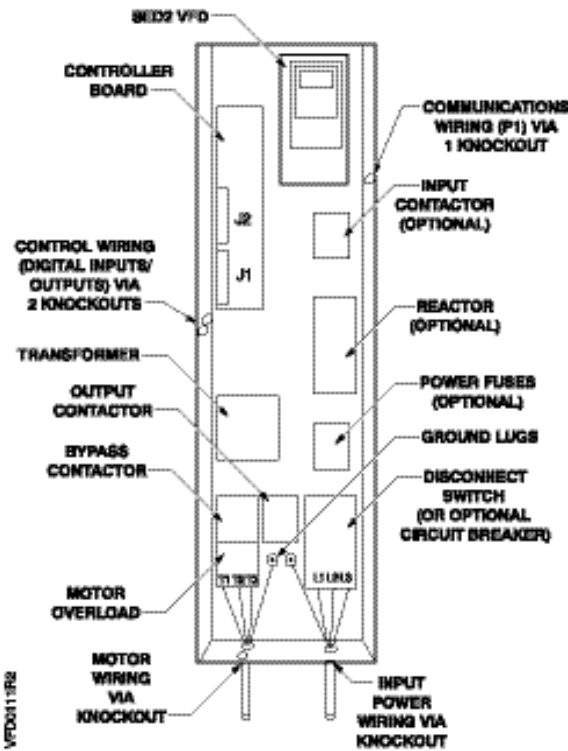

Figure 9. Routing of Power and Control Wiring for Frame Sizes A and B.
1. Route shielded twisted pair (recommended wire type) cable, 24-gauge minimum *control wiring* in conduit through knockout and into housing (Figures 9 through 11). Connect control wiring per job-specific drawings and Figure 12.
2. If applicable, route *communications wiring (P1)* in conduit through knockout and into housing (Figures 9 through 11). Continue to route communications wiring to VFD and terminate per *SED2 VFD Startup, Operation, and Maintenance Manual (125-3201)*.
3. Route motor wiring in conduit through knockout and into housing (Figures 9 through 11). Connect motor wiring to motor overload and ground lug. See Tables 4 through 7 for wire sizes and tightening torques.
4. Route input power wiring in conduit through knockout and into housing (Figures 9 through 11). Connect input power wiring to disconnect switch and ground lug or to circuit breaker and ground lug. See Tables 4 through 7 for wire sizes and tightening torques.